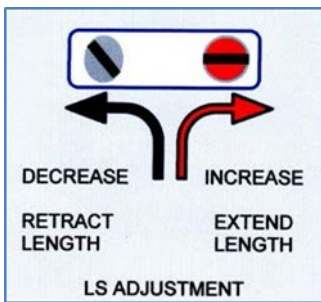

Figure 4 – Extend
- 2.6 To extend (increase) gate travel towards the closure position turn the extend length adjustment screw clockwise. As indicated in red in Figure 4.